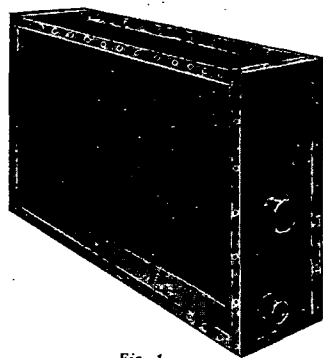

Fig. 1
**Aerofin Non-freeze heater** (Fig. 1) is non-freeze, non-stratifying spiral fin coil built into casing for air conditioning units